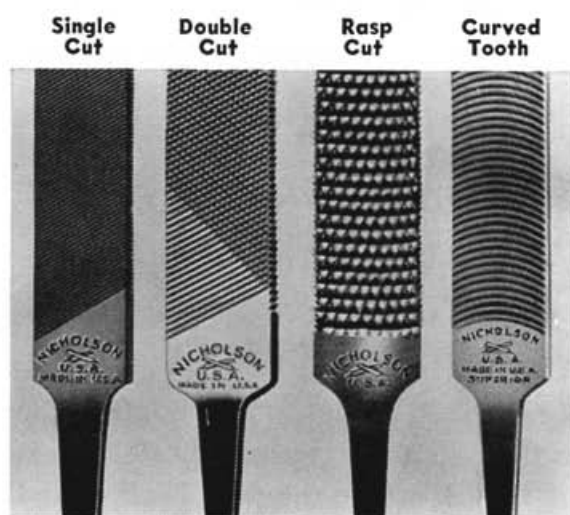

Fig. 4
**Cut.** The cut of files is divided, with reference to the *character* of the teeth, into Single, Double, Rasp and Curved (Fig. 4); and with reference to the *coarseness* of the teeth, into Coarse, Bastard, Second and Smooth Cuts.